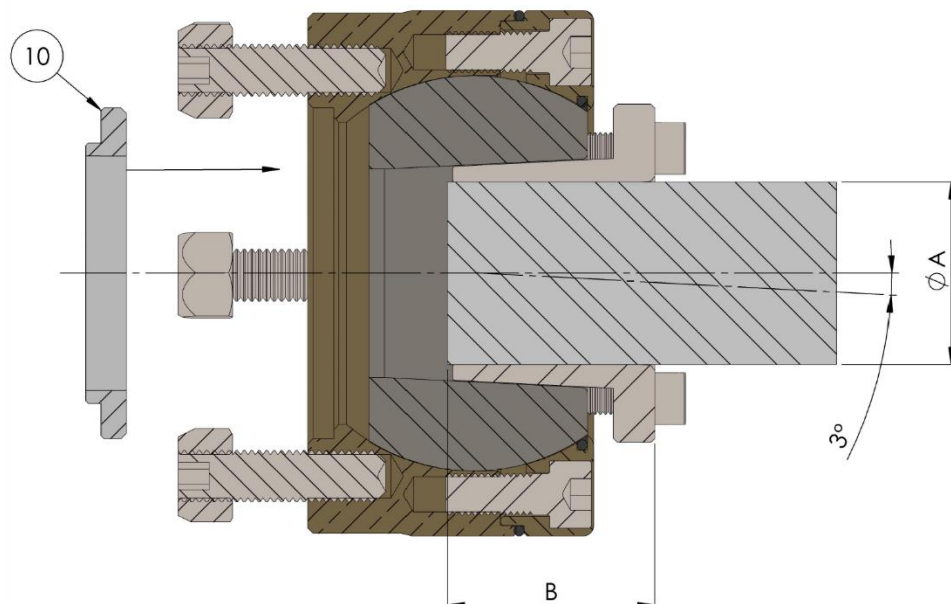

Fig 2. SigmaDrive angle drawing (Generic drawing for illustrative purposes only)
2. Insert the M10 high tensile studs (11) into the corresponding tapped holes to match the gearbox output flange. Lock the studs using the two narrow M10 lock nuts (14) and the loctite **290** supplied. Remove and discard the two narrow M10 lock nuts (14) after fitting.
3. Ensure the output flange register (10) is inserted into the SigmaDrive unit prior to fitting to the gearbox flange. This will ensure the SigmaDrive is centered on the gearbox and should be a snug fit. See Fig 2.
4. **Please apply a light oil film on the outer surface of the taper lock (7), making sure that the surface between the taper and central sphere (3) is clean and well lubricated. Use WD-40 or hydraulic oil, this will aid removal. Please do not use oil with molybdenum disulfide, high pressure additives or graphite grease on either the shaft or taper lock. These substances notably reduce the friction coefficient for the clamp unit. Do not apply any lubricant between the shaft and the inside of the taper lock (7) surfaces.**
5. Carefully slide the clamping unit (7) onto the propeller shaft to the minimum depth indicated in table 2 (See Fig 2 for diagram). Maximum shaft insertion depth is 60mm.